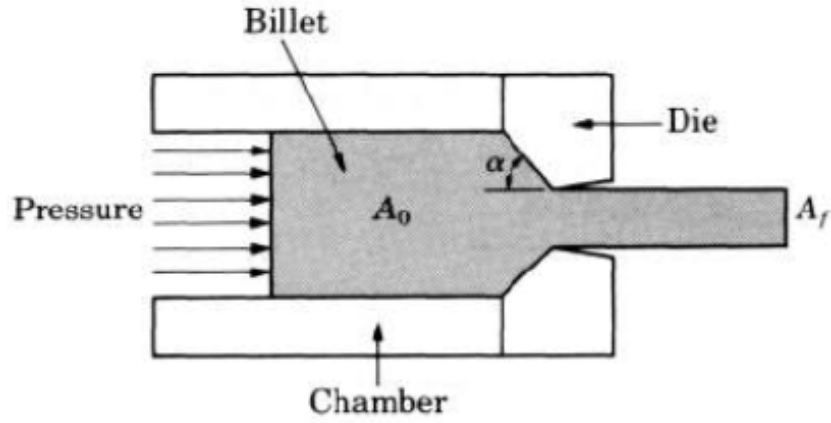
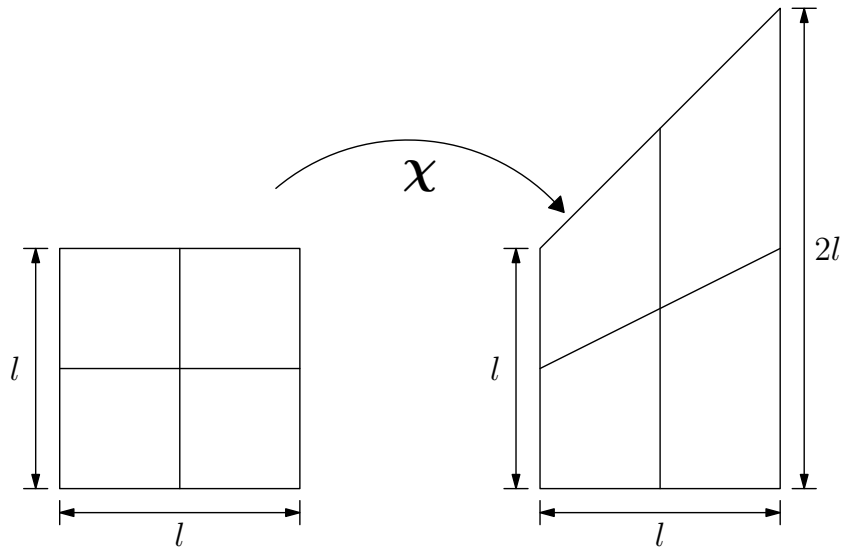

Figure 3: The direct extrusion process
Figure 4: Deformation of body
5. In the direct extrusion process, a round billet is placed in a chamber and forced through a die opening by a hydraulic-driven ram in Fig. 3. The extrusion pressure is affected by the die angle, the reduction in cross-section, extrusion speed, billet temperature, and lubrication. In the vicinity of the corner of the die a rectangular block of material is considered, with its axes oriented along an ortho-normal basis \mathbf{e}_1 , \mathbf{e}_2 and \mathbf{e}_3 . Its dimension along each of the three axes is l . The block is deformed as shown in Fig. 4. The thickness remains unchanged. Determine the deformation gradient tensor \mathbf{F} .